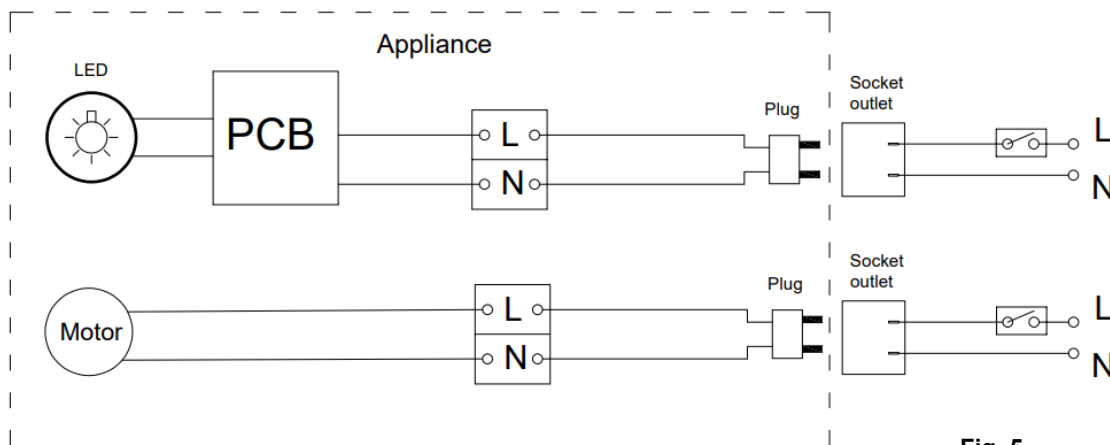

Fig. 5
- Before installation, check the installation location in the ceiling has access to 2x socket outlets which are connected to a wall switch(es). If it does not, please contact a licensed electrician to arrange installation of the socket outlets and wall switch(es) before continuing. Refer to the circuit diagram section for more information. (Fig.5)